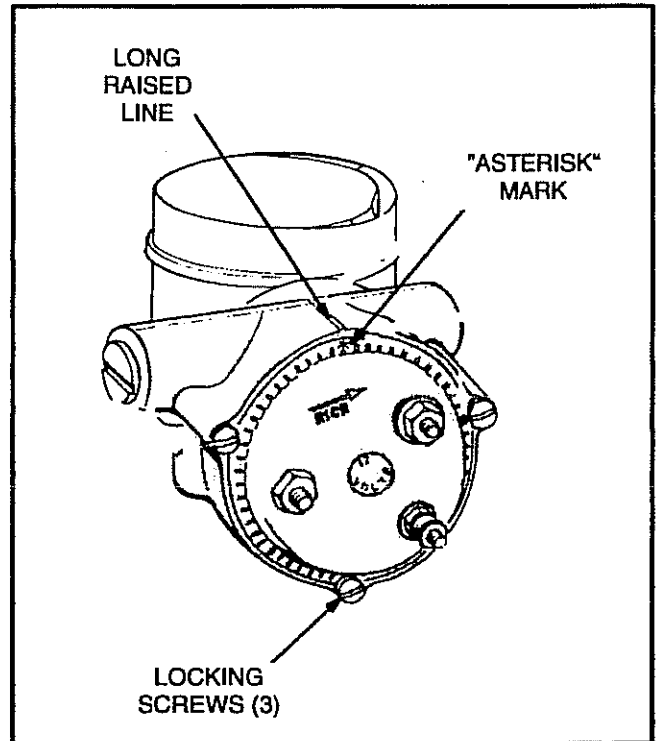

FIGURE 6-2. ELECTRIC CHOKE
1. For better starting in cold weather, loosen the three cover screws (Figure 6-2) and rotate the cover clockwise (richer) so that the asterisk (*) is one or two lines past the line on the housing and re-tighten the cover screws.
Choke Adjustment for Combination Carburetor: If the engine is equipped with a combination carburetor, see that the gasoline shut-off valve is closed. The electric choke (Figure 6-2) must be adjusted so the adjustable cover is turned 10 to 12 notches counterclockwise from the asterisk (*) mark. When properly adjusted, the electric choke will be completely open even at very low temperatures.